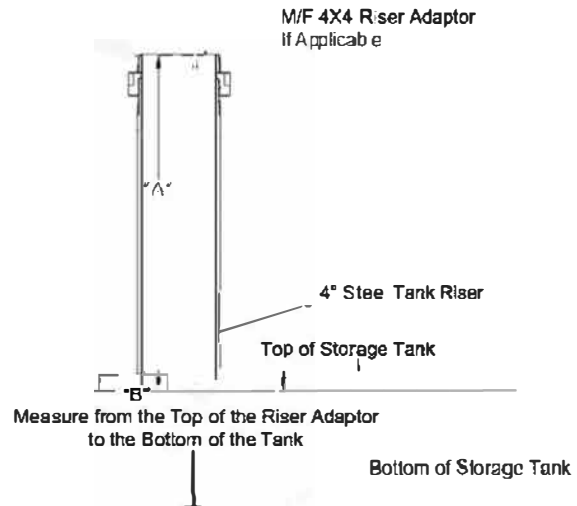

Figure 1
STEP 2 Determine the total height of the Fill (product) riser height with the M/F 4X4 riser adapter installed. See Figure 1, Measurement “A” (Note: Both the fill riser and M/F 4X4 riser adapter must be installed and correctly torqued.) To determine the fill riser height, (M/F 4X4 riser adapter must be installed if applicable) take a tape measure and measure from inside the installed fill riser, (hook the tape on the end of the riser or on the inside top of tank) and measure from the bottom end of the fill riser to the top of the M/F 4X4 threaded riser adapter installed on top of the riser
This is Measurement “B”() inches (See Figure 1)